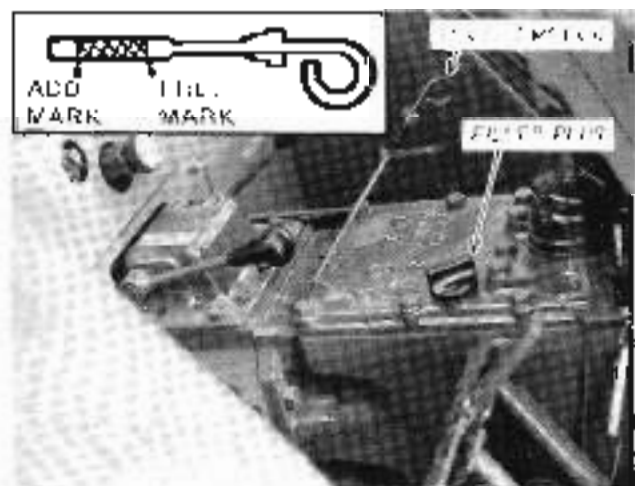

Figure 41 Transmission, Rear Axle and Hydraulic System Oil Level Dipstick and Filler Plug
1. With the tractor standing level and the engine off, check the oil level with the dipstick, Figure 41.
2. Remove the filler plug, Figure 41, and fill with new oil of the type specified on page 24.